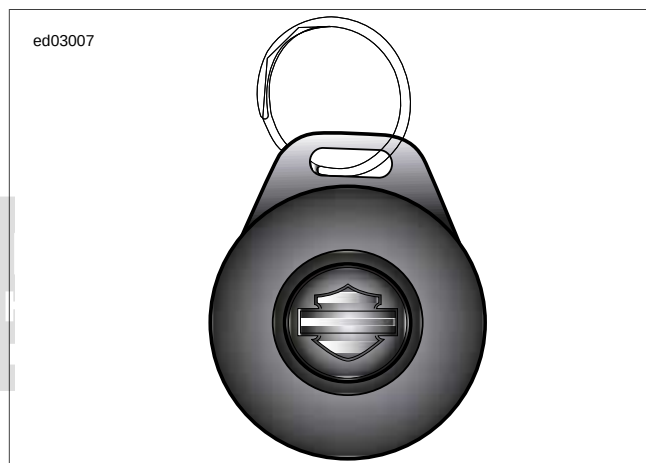

Figure E-4. Key Fob: TSSM
- **Remote arming/disarming:** See Figure E-4. Owners may enable and disable security alarm and immobilization functions with a personally carried transmitter. This trans-